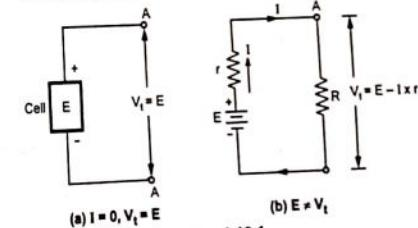

Fig. 1.16.1
• This e.m.f. and the potential difference between its terminals are same as long as it is not driving any current through the circuit. This is shown in Fig. 1.16.1 (a).
• Now consider the resistance R connected across the terminals A-A of the cell, as shown in the Fig. 1.16.1 (b).